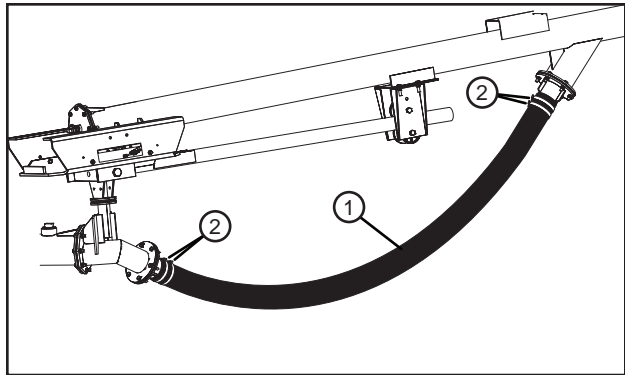

Figure 30-1
If the 4-1/2" hose is sufficiently weather-cracked, checked, or leaking, you need to replace the hose. Follow the steps below to replace the 4-1/2" hose. See figure 30-1.
1. Loosen the hose clamps. See figure 30-1.
5. Tighten the hose clamps. See figure 30-1.